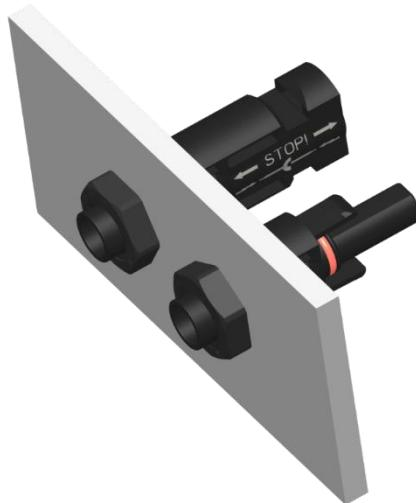

Figure 16
- ✧ 安装公/母面板连接器，用 2.0 N.m 的扭矩锁紧螺母。具体情况，需要由终端用户根据不同的面板验证合适的扭矩(如图 16)。
When installing the male or female panel connector, it is recommended to use 2.0 N.m torque lock nut. The appropriate torque has to be verified in the end use according to the respective housing (Fig.16).